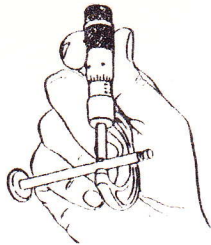
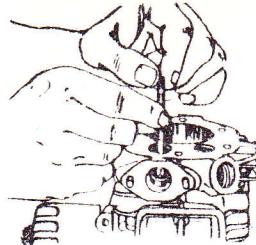

Fig. 4. Miking Valve Stem
Fig. 5. Miking Valve Guide
6. If the valve is reusable, the stem should be polished with crocus cloth and miked (Fig. 4). Clearance between valve stem and valve guide should be checked (Fig. 5). Proper clearance should be at least .002 minimum.